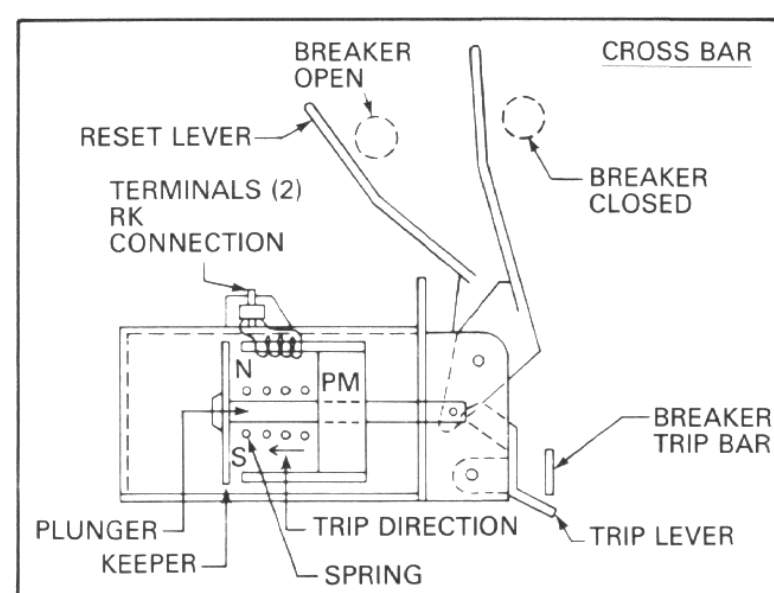

Fig. 2 *Actuator Diagram*
When the actuator receives a tripping current from the RK, it releases a mechanical force to trip the breaker. The actuator is made up of a permanent magnet and a spring (see Fig. 2). When the breaker is open, the cross bar pushes the reset lever. The reset lever moves the plunger out, and the plunger then compresses the spring and pulls the keeper until it contacts the pole pieces of the magnet. Although the magnet cannot pull and reset the keeper against the force of the spring acting on the plunger, it can hold the spring force when the keeper is in contact with the magnet. A tripping current from the RK unit counteracts the effects of the permanent magnet allowing the spring to separate the keeper from the magnet and move the plunger to actuate the trip lever.
3. Operate the actuator a few times. Alternately pull back on the reset lever (see Fig. 2) and then trip by applying 9 to 12 volts d-c (be sure to use correct polarity) to the terminals.